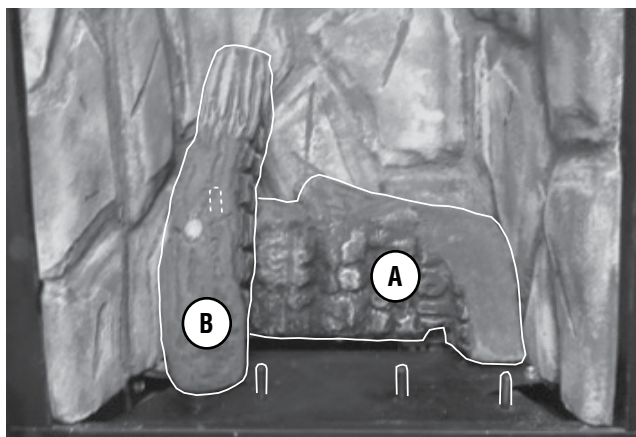

Figure 43 - Install Left Middle Log (B)
2. **Place the left middle log (B) as shown in Figure 43.** Position the hole on the bottom of log B over the corresponding locating pin on Log A.